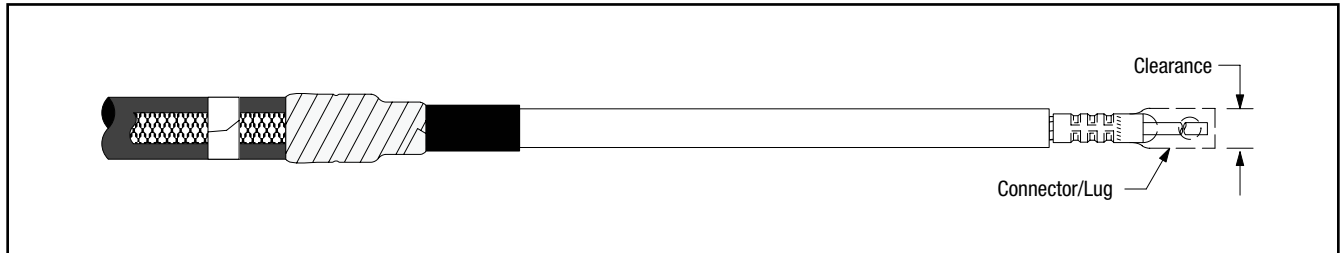

Figure 14
- 8.1 Check to insure 3M™ Cold Shrink QT-III Silicone Rubber Termination assembly fits over the selected lug or connector. If lug or connector (Figure 14) will not fit through the termination core, clean the insulation (per Step 9.0) and slide termination on cable before installing lug or connector. **DO NOT REMOVE CORE AT THIS TIME.**